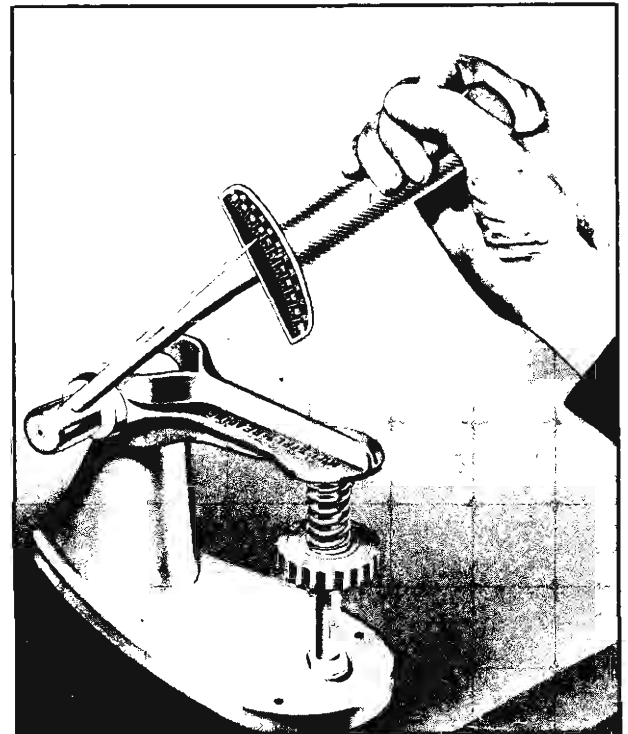

Fig. 65— Checking Valve Spring Tension
4. Check valve spring tension with Tool J-8056 (fig. 65).